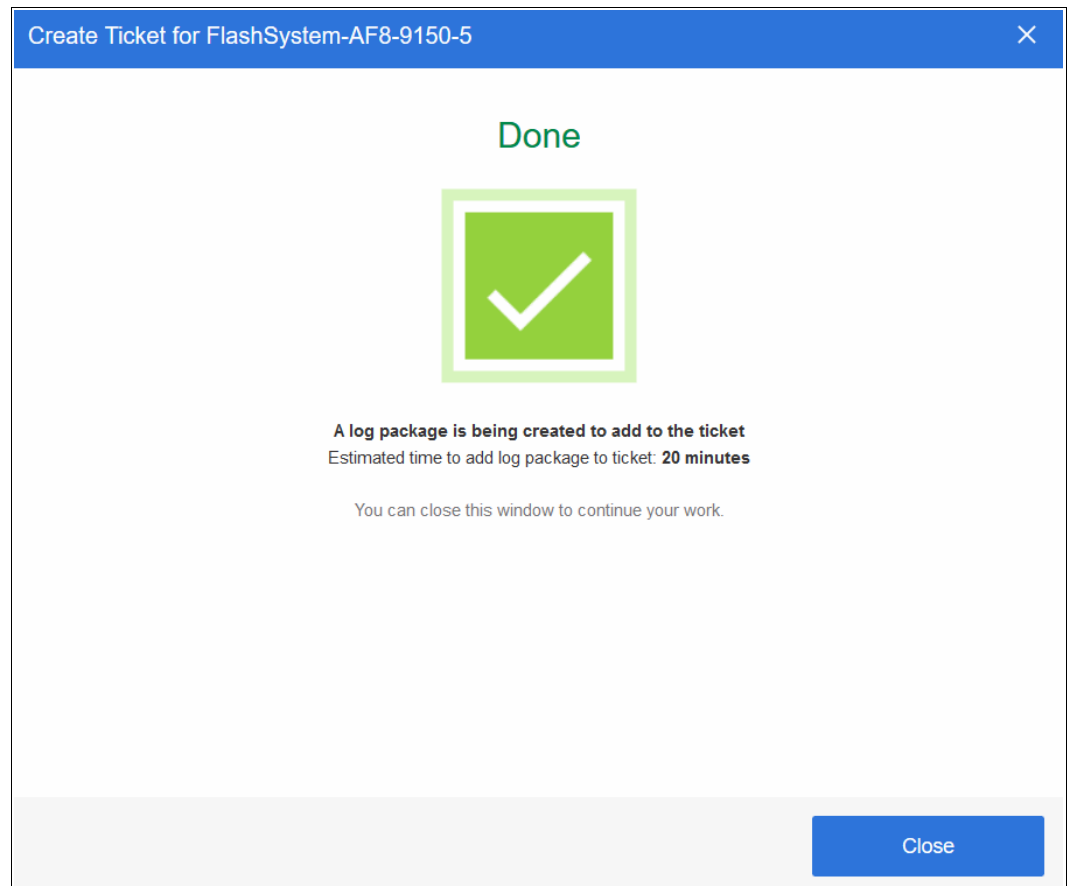

Figure 13-86 Ticket Creation confirmation window
7. Once done, select **Create Ticket**. A confirmation window opens, as shown in Figure 13-86, and IBM Storage Insights automatically uploads the snap to the ticket when it is collected.